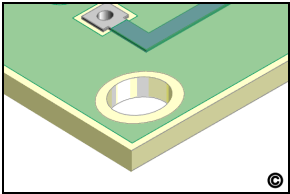

Figure 3: Cut off excess material and redrill holes as required.
9. Remove Tape and cut off the excess Rod using the Saw. Mill or file the Rod flush with the board surface. (See Figure 3).